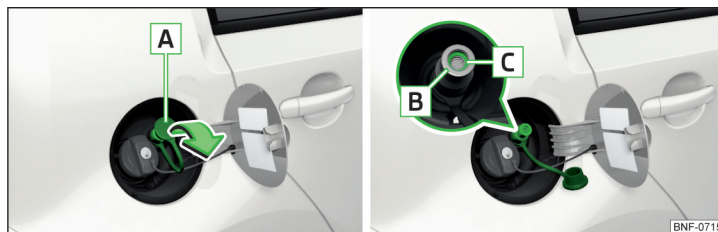

Fig. 104 Natural gas filler tubes
- Remove cap [A] » Fig. 104 in the direction of the arrow and insert connector for the refuelling system into filler neck [B].
- Check that sealing ring [C] » Fig. 104 has remained inserted in filler neck [B]. If the sealing ring has slipped on the connector, reinsert it into the filler neck.